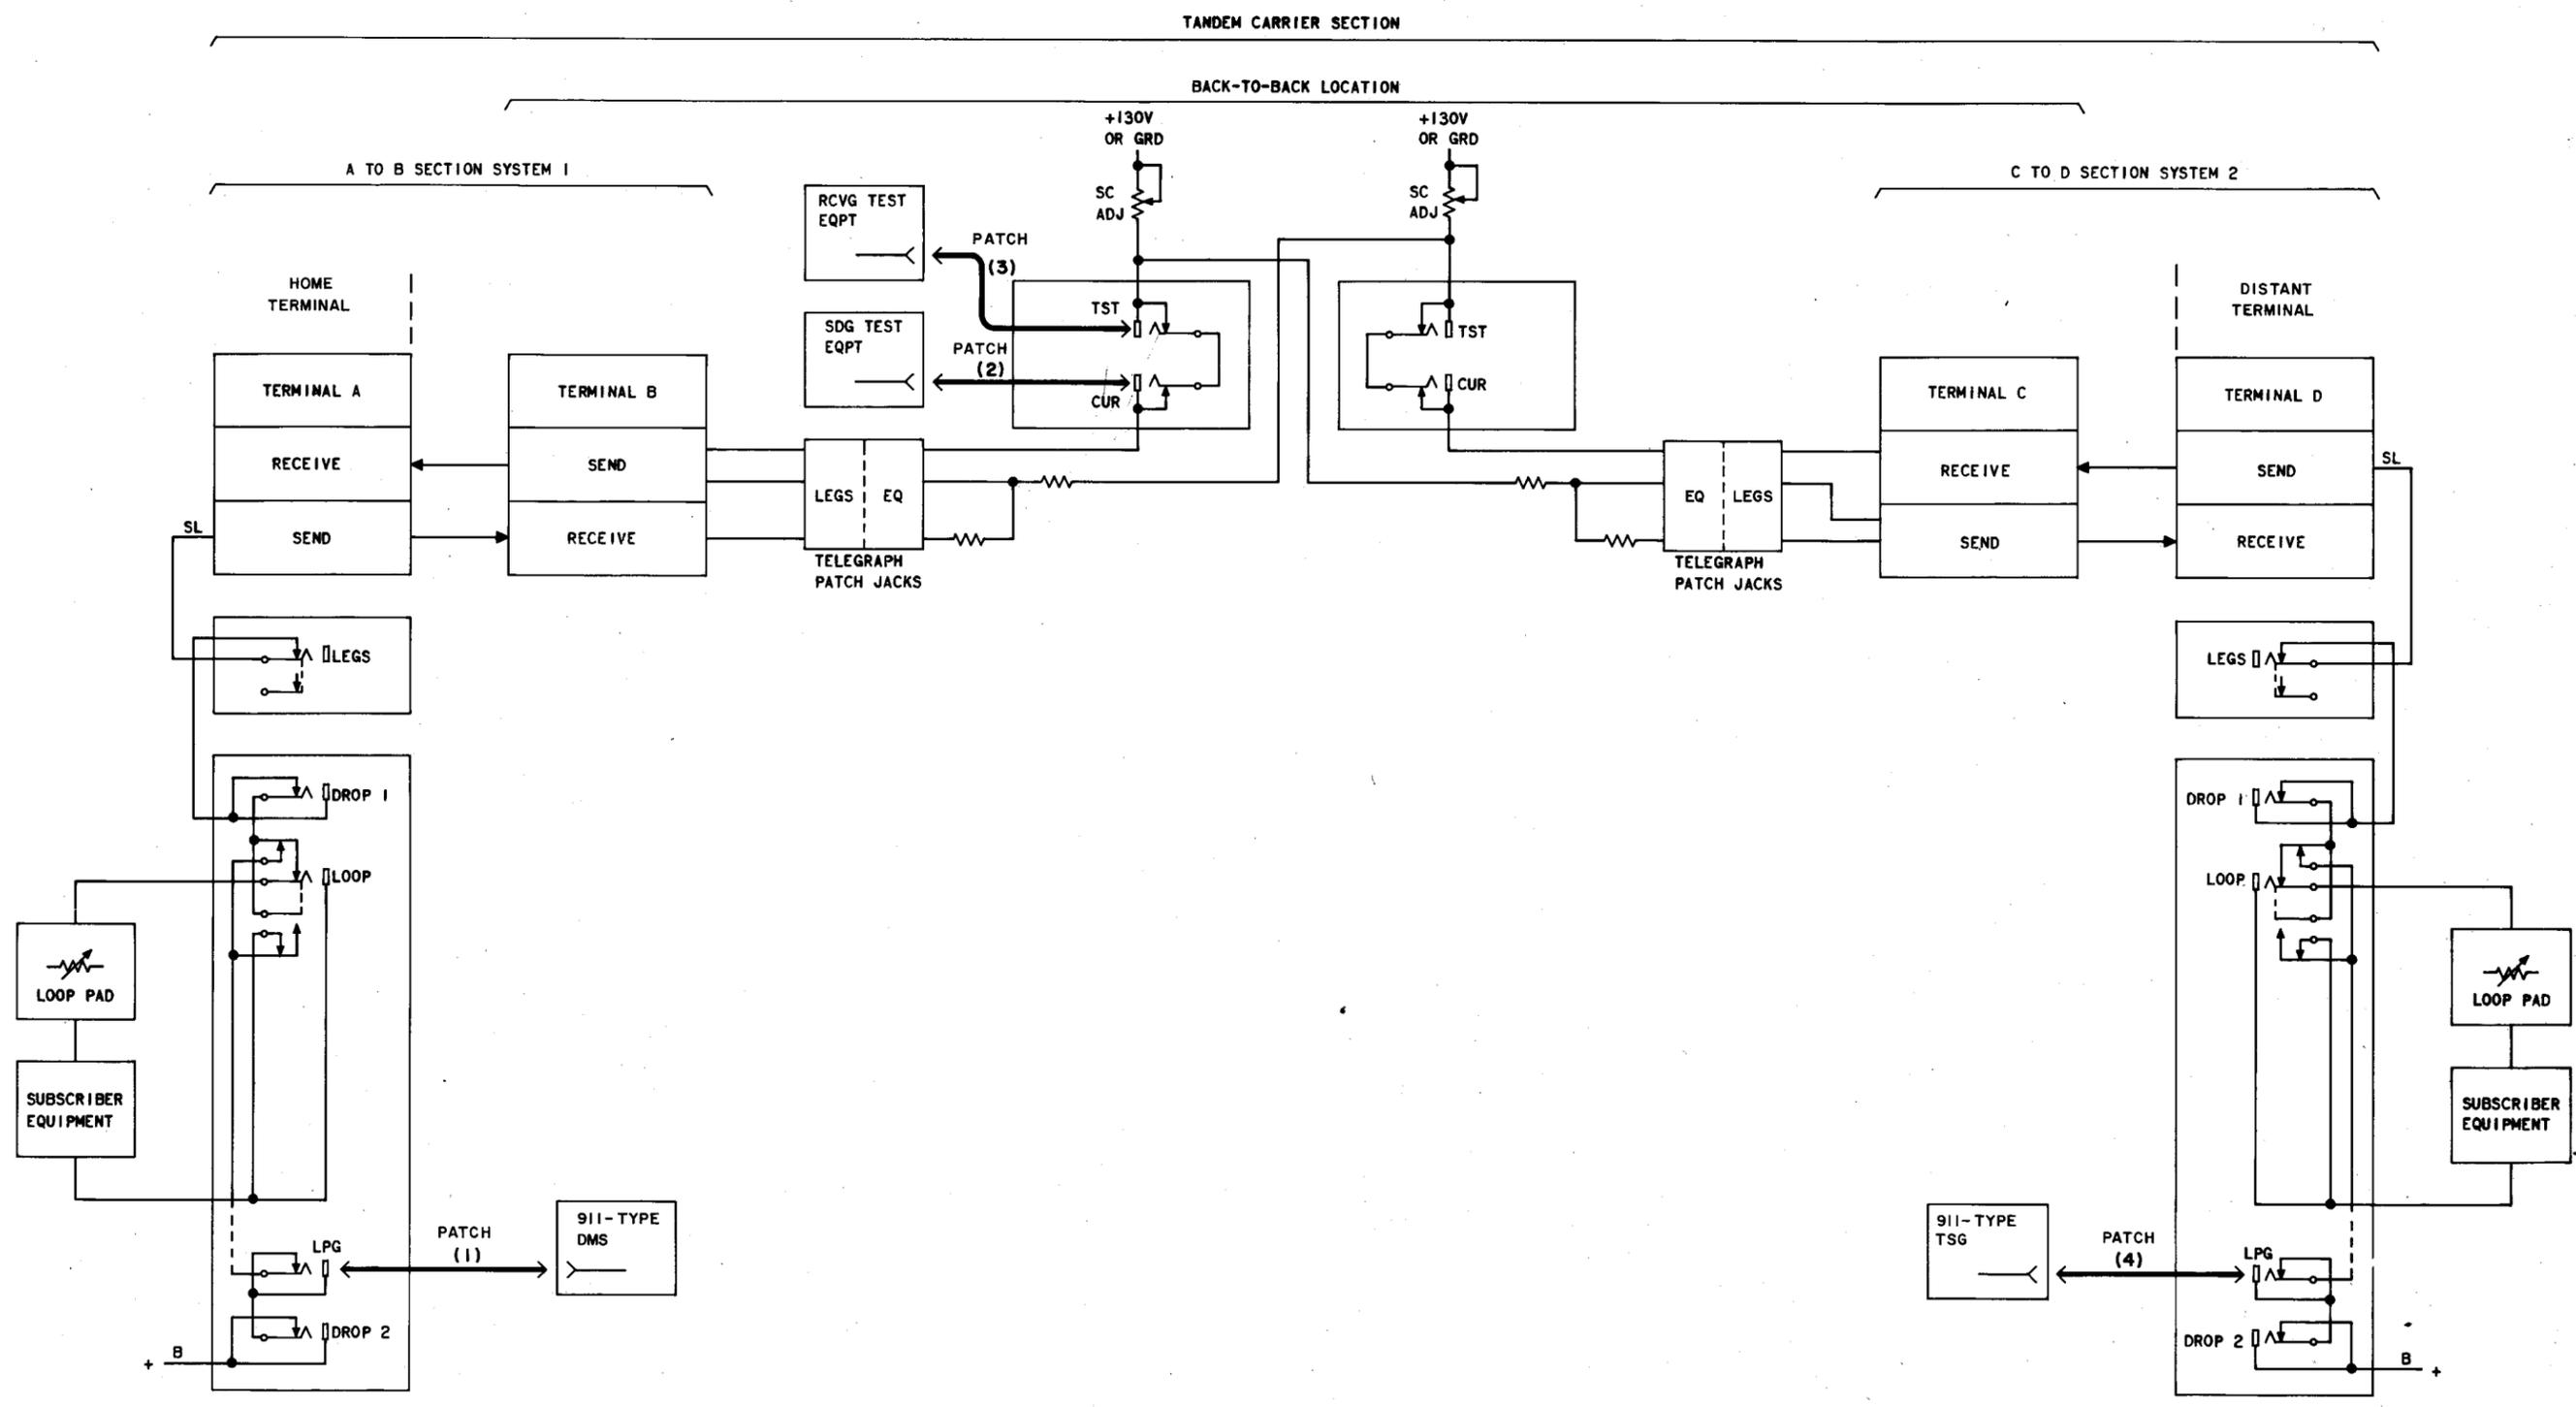

Fig. 14—Test O Connections—Typical Tandem Carrier Section—Neutral HDX Operation
- 7e If distant terminal is arranged for back-to-back operation (Fig. 14)—
Connect the 911-type TSG output to the CUR jack [patch (2) of Fig. 14] associated with the channel terminal opposite the one under test.
12h	If terminal is arranged for back-to-back operation— Connect the 911-type DMS input to the TST jack [patch (3) of Fig. 14].
#### Tandem Carrier Section (Fig. 14)
Connect the 911-type TSG output to the LPG jack [patch (4) of Fig. 14] associated with the channel terminal under test.